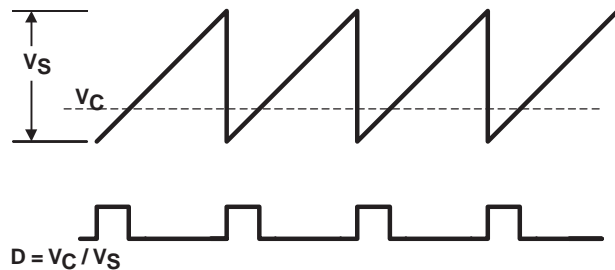

Figure 9
Voltage-mode buck-type converters are typically compensated using Type III networks. Since the TPS4005x uses voltage feedforward control, the gain of the PWM modulator with voltage feedforward circuit must be included. The modulator gain is described in Figure 9, with  $V_{\text{IN}}$  being the minimum input voltage required to cause the ramp excursion to cover the entire switching period as described in equation (19).